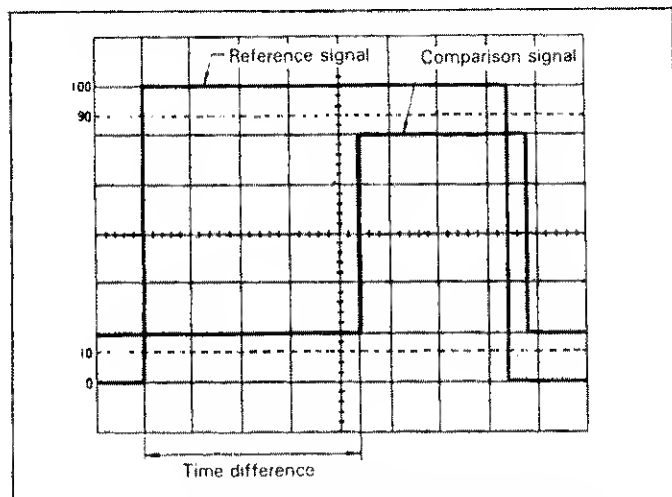

Fig. 14. Time Difference Measurement.
(Refer to Fig. 14)
1. Apply the two signals to the CH 1 (X) and CH 2 (Y) input jacks.
3. Use the $\blacktriangleup\blacktriangledown$ position controls to superimpose both waveforms to intersect the center horizontal graduation line as shown in Fig. 14. Use the $\blacktriangleleft\blacktriangleright$ position control to set the reference signal coincident with one of the vertical graduation lines.
For the example shown in Fig. 14, the horizontal distance measured is 4.4 divisions. If the sweep **TIME/DIV** is 0.2 ms and **X10 Mag** is not used, the time difference is calculated as follows: